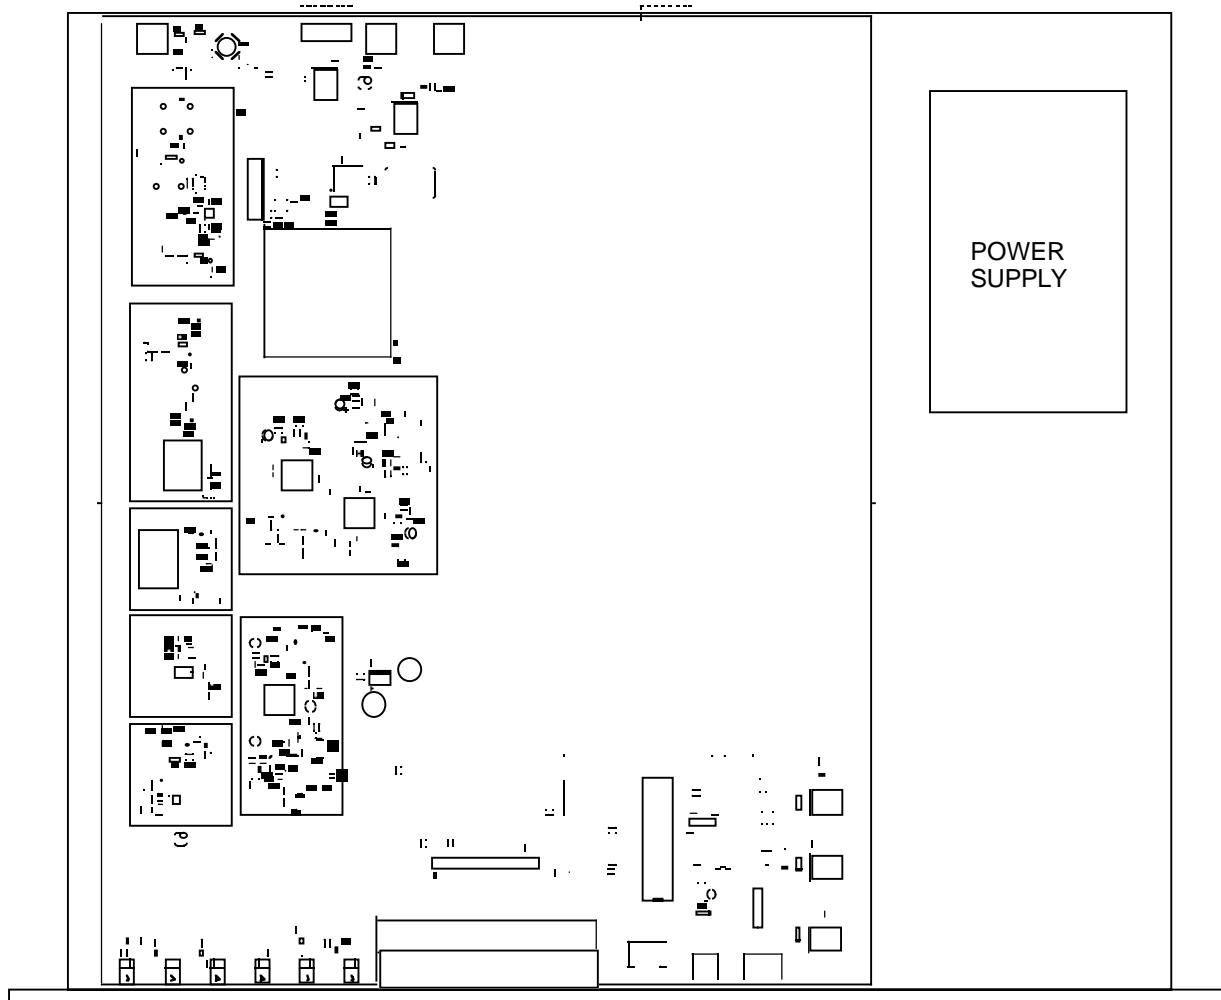

FIGURE 2.0 2015-03 Mechanical Assembly
2.1 Mechanical - The 2015-03 consists of one RF/Controller PCB housed in a 1 RU (1 3/4 inch high) by 16 inch deep chassis. A switching, ± 12 , $+24$, $+5$ VDC power supply provides power for the assemblies. The 2015-03 can be secured to a rack using the 4 holes on the front panel. Figure 2.0 shows how the 2015-03 is assembled.